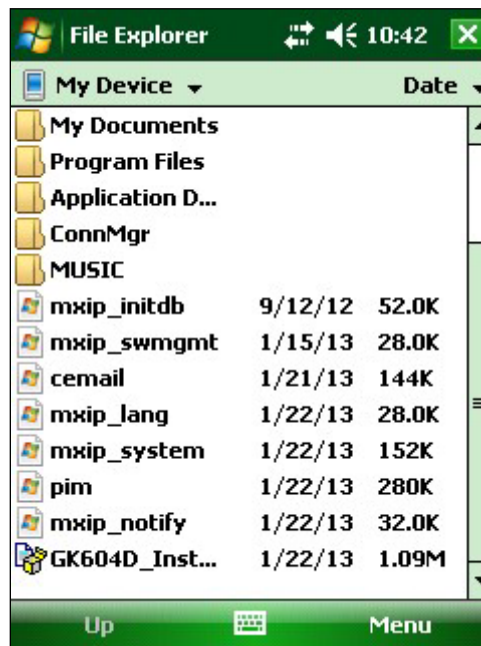

Figure 24 - GK-604D Installer at root of HDD
- 4) Copy the file, "GK604D_Installer.CAB" from the installation folder to the HDD system root folder. From the HDD, navigate to the system root folder using File Explorer (Figure 24) and tap the file, "GK604D_Installer" to execute the installer.